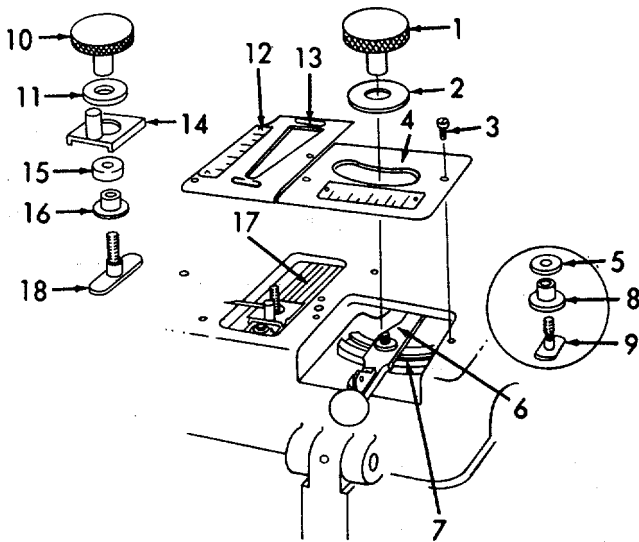

Figure 6-153. Control Knobs and Mechanism, Removal
- (10) Refer to Figure 6-153. Remove knob (1) and washer (2).
- (11) Remove two screws (3) and plate (4).
- (12) Remove washer (5), and adjustment strap (6).
- (13) Remove pivot (7), stud bearing (8), and sliding stud (9).
- (14) Remove knob (10) and washer (11).
- (15) Remove two screws (12) and plate (13).
- (16) Remove indicator (14), washer (15), and stud bearing (16).
- (17) Remove shifter lever (17) and sliding stud (18).